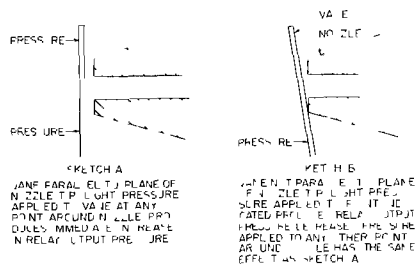

FIGURE 14 Vane Nozzle Alignment
Vane Nozzle Alignment (Figure 14)
- b. If pressure at either point produces the effect shown in Sketch B (Figure 14), either (1) vane is not parallel to nozzle tip or (2) there is a burr on nozzle tip.